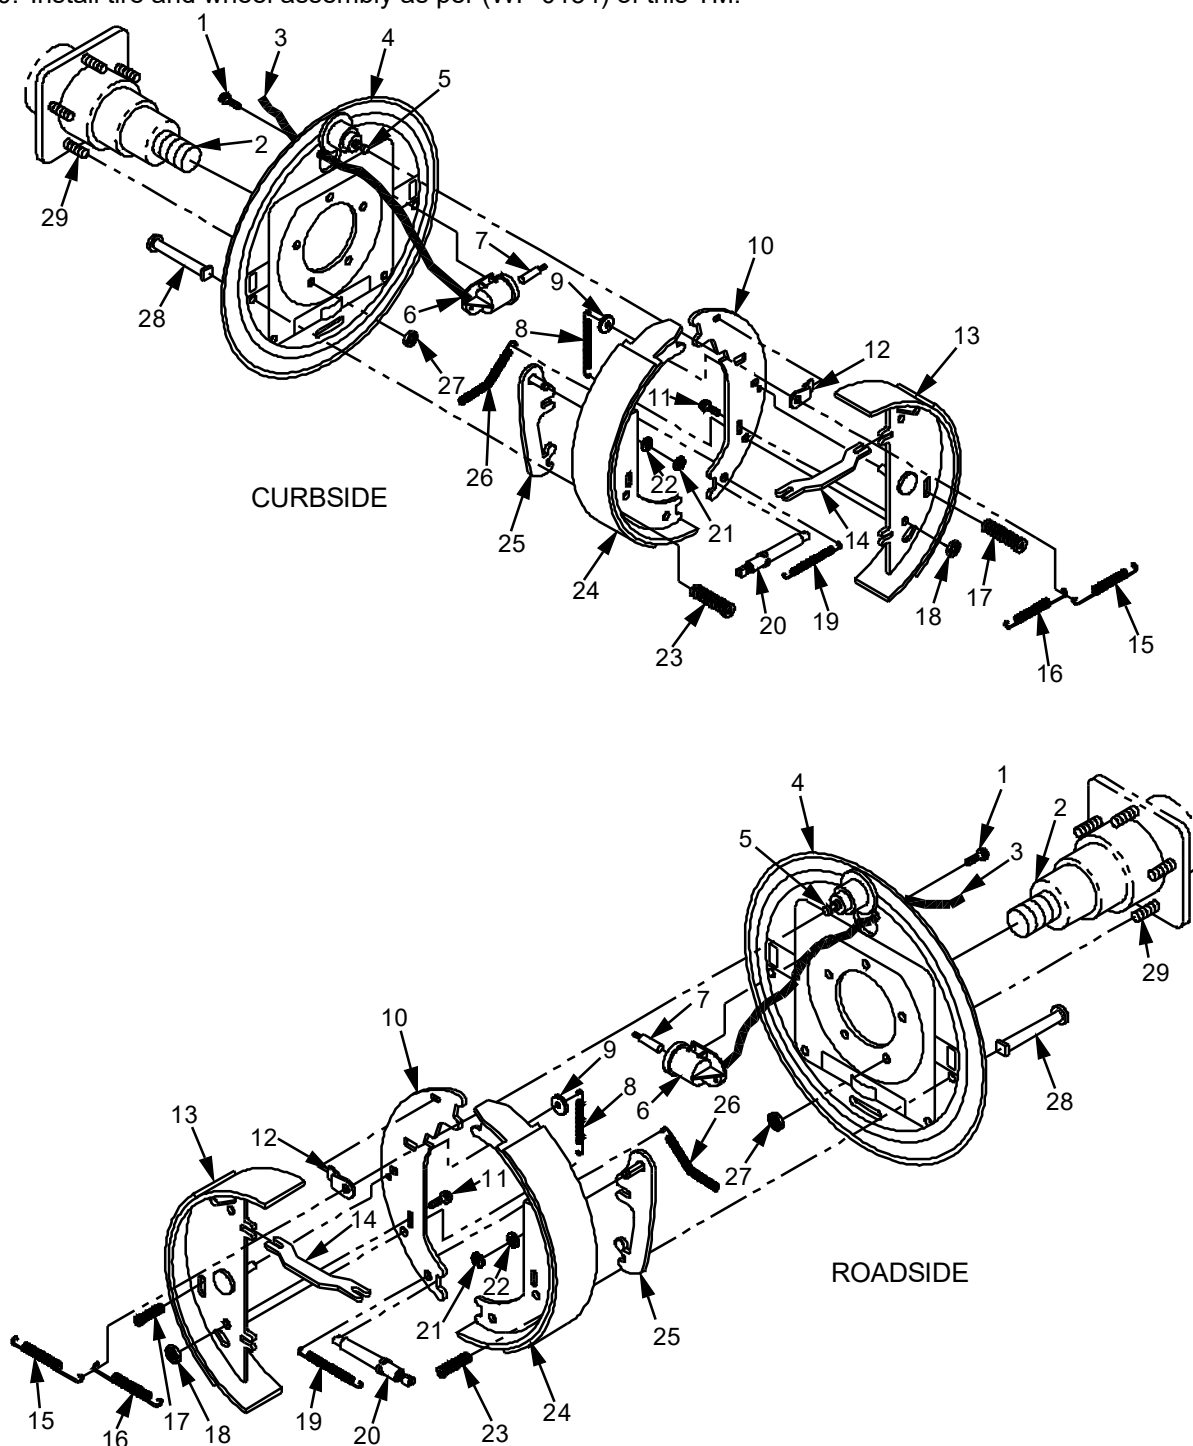

Figure 2. Wheel Cylinder, Brake shoe, and Backing Plate Removal/Clean and Inspect/Replacement.
3. Remove front shoe spring (Figure 2, Item 15) from front brake shoe (Figure 2, Item 13) and backing plate anchor pin (Figure 2, Item 5).
4. Remove rear shoe spring (Figure 2, Item 16) from rear brake shoe (Figure 2, Item 24) and backing plate anchor pin (Figure 2, Item 5).
5. Remove two cap screws (Figure 2, Item 1) with integral lock washers securing wheel cylinder (Figure 2, Item 6) to backing plate (Figure 2, Item 4).
6. Pull wheel cylinder (Figure 2, Item 6) loose from backing plate (Figure 2, Item 4) while compressing push rod (Figure 2, Item 7); remove push rod (Figure 2, Item 7) from brake shoe (Figure 2, Item 13).
7. Disconnect flexible brake line (Figure 2, Item 3) from cross over brake line, retain clip (WP 0132, Figure 2, Item 11).
8. Install two temporary plugs in flexible brake line (Figure 2, Item 3) and cross over brake line.
9. Remove flexible brake line (Figure 2, Item 3) from wheel cylinder (Figure 2, Item 6). Set flexible brake line (Figure 2, Item 3) aside. Discard wheel cylinder.
1. Clean all removed components except wheel cylinder (Figure 2, Item 6) with dry cleaning solvent and allow to dry.
1. Attach flexible brake line (Figure 2, Item 3) to wheel cylinder (Figure 2, Item 6) and tighten.
2. Remove two temporary plugs from flexible brake line (Figure 2, Item 3) and cross over brake line.
3. Connect flexible brake line (Figure 2, Item 3) to cross over brake line and install clip (WP 0132, Figure 2, Item 11).
4. Install push rod (Figure 2, Item 7) in brake shoe (Figure 2, Item 13) and wheel cylinder (Figure 2, Item 6) and mount onto backing plate (Figure 2, Item 4). Retighten all lines.
5. Install two cap screws (Figure 2, Item 1) with integral lock washers and tighten finger tight. Torque cap screws (Figure 2, Item 1) to 168 ± 17 in-lb (19 ± 1.9 N·m).
6. Install rear shoe spring (Figure 2, Item 16) to rear brake shoe (Figure 2, Item 24) and backing plate anchor pin (Figure 2, Item 5).
7. Install front shoe spring (Figure 2, Item 15) to front brake shoe (Figure 2, Item 13) and backing plate anchor pin (Figure 2, Item 5).
5. Remove front brake shoe hold down cup and spring (Figure 2, Item 17) from front brake shoe hold down pin securing front brake shoe (Figure 2, Item 13) to backing plate (Figure 2, Item 4).
6. Remove parking shoe lever (Figure 2, Item 14) and set parking shoe lever aside.
7. Remove travel link (Figure 2, Item 12) from anchor pin (Figure 2, Item 5) and front brake shoe (Figure 2, Item 13).
8. Rotate and lower front brake shoe (Figure 2, Item 13). Remove adjuster (Figure 2, Item 20) and adjuster spring (Figure 2, Item 19) from front brake shoe. Remove adjuster spring from rear brake shoe and set aside.
9. Remove rear brake shoe hold down cup and spring (Figure 2, Item 23) from rear brake shoe hold down pin (Figure 2, Item 28) securing rear brake shoe (Figure 2, Item 24) to backing plate (Figure 2, Item 4).
10. While holding rear brake shoe, remove parking brake cable (Figure 2, Item 26) from parking brake link (Figure 2, Item 25). If necessary, see (WP 0128, Figure 7, Items 3 and 5) of this TM.
12. Using a flat tip screw driver, pry retainer (Figure 2, Item 21) from parking brake link (Figure 2, Item 25) on rear brake shoe assembly (Figure 2, Item 24). Remove washer (Figure 2, Item 22) and set parking brake link, retainer, and washer aside.
13. Slide parking brake link (Figure 2, Item 25) out of rear brake shoe (Figure 2, Item 24) and set parking brake link aside. Discard rear brake shoe.
14. Release top of tension spring (Figure 2, Item 8) on rear of front brake shoe (Figure 2, Item 13).
15. Remove washer (Figure 2, Item 9) from rear of front brake shoe (Figure 2, Item 13).
16. Remove bolt (Figure 2, Item 11) and lock nut (Figure 2, Item 18) holding front brake shoe (Figure 2, Item 13) and backing shoe lever (Figure 2, Item 10) together.
17. Slide backing shoe lever (Figure 2, Item 10) off of front brake shoe (Figure 2, Item 13).
18. Remove tension spring (Figure 2, Item 8) from back of backing shoe lever (Figure 2, Item 10). Set backing shoe lever and tension spring aside. Discard front brake shoe.
1. Slide backing shoe lever (Figure 2, Item 10) onto front brake shoe (Figure 2, Item 13).
2. Insert bolt (Figure 2, Item 11) and lock nut (Figure 2, Item 18) through front brake shoe (Figure 2, Item 13) and backing shoe lever (Figure 2, Item 10) and tighten.